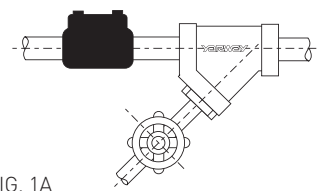

FIG. 1A
3. Fig. 1A shows a Yarway Strainer installed in a horizontal line ahead of a steam trap. Fig. 2 A shows the strainer installed in a vertical down-flow line. Be sure to install the strainer with the arrow in direction of flow.